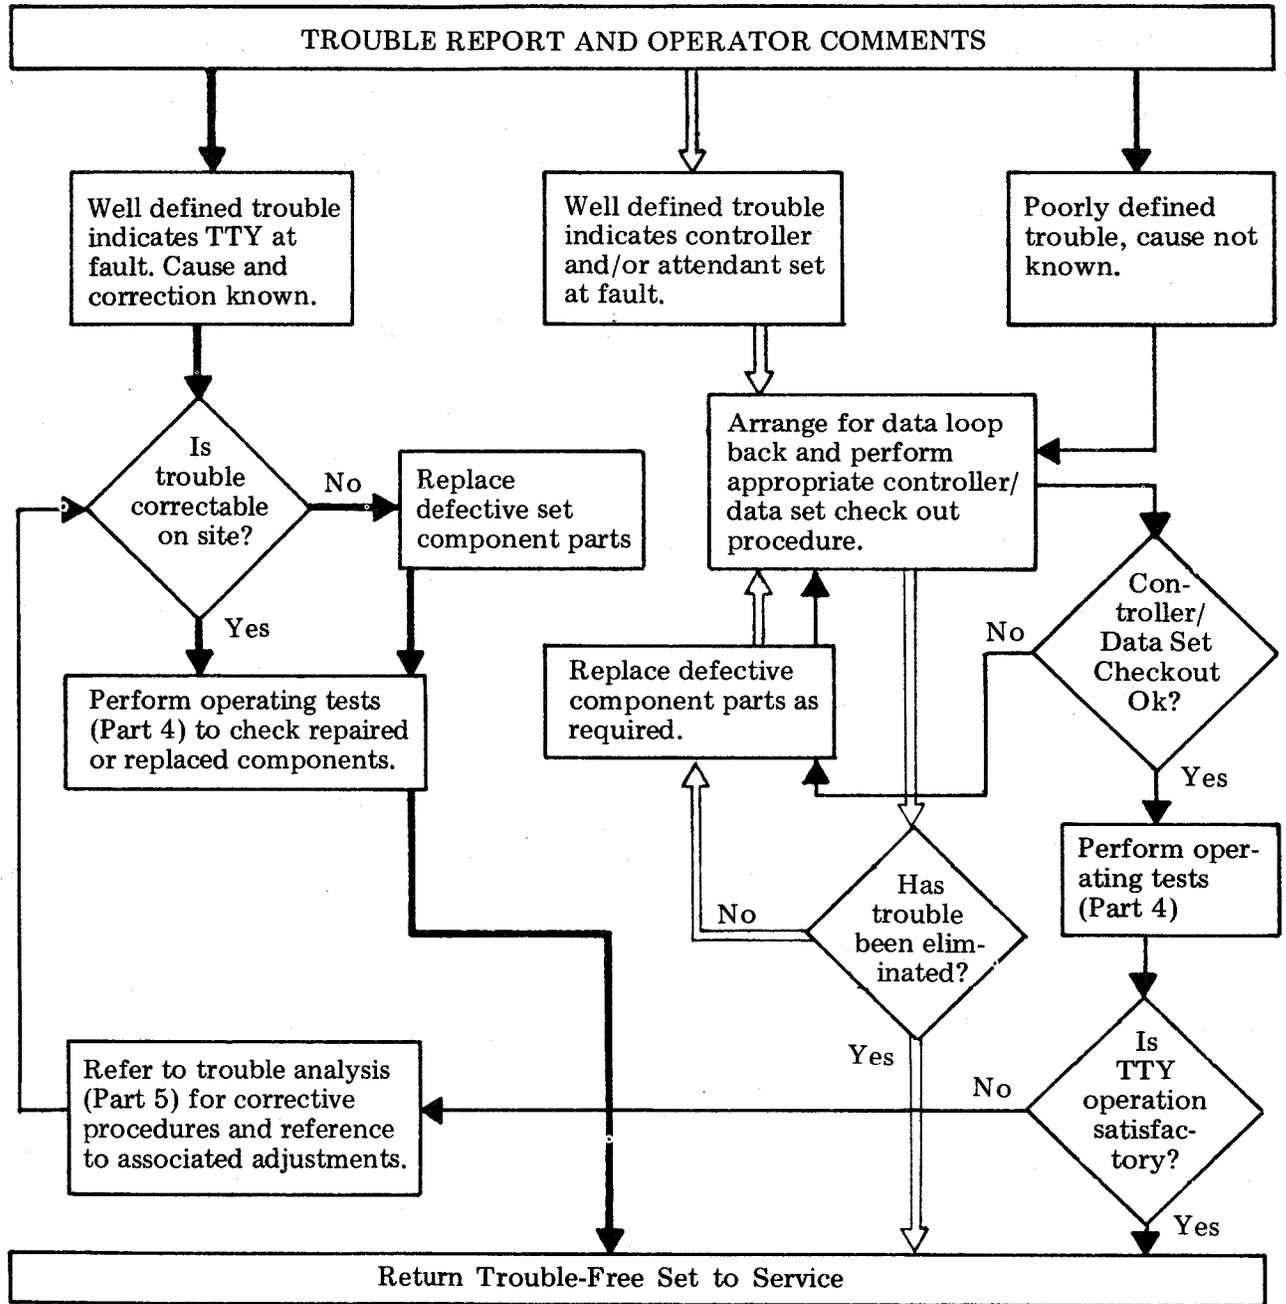

Figure 3 - Trouble Call Analysis Flow Chart
1.06 The trouble call analysis procedure that is normally followed during a trouble call is shown in Figure 3. The testroom has sectionalized the trouble and the tests indicate the trouble to be at the station. The report is given to a station maintenance man who follows the procedures in Figure 3.
3.02 Using the Trouble Call Analysis Flow Chart (Figure 3) as a guide, determine whether the problem lies in the teletypewriter set or the controller and attendant set. If the problem is in the teletypewriter set, disconnect the set from the controller and attendant set to perform the test procedures.